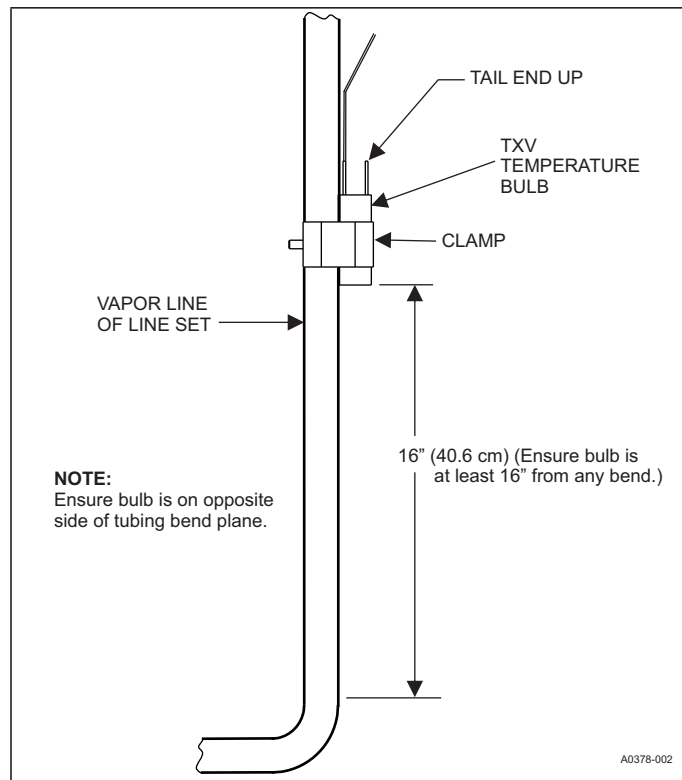

FIGURE 14: Vertical Temperature Bulb Orientation
- b. If bulb installation is made on a vertical run, locate the bulb at least 16" (40.6 cm) from any bend, and on the tubing sides opposite the plane of the bend. Position the bulb with the tail of the bulb at the top, so that the bulb acts as a reservoir. See Figure 14.